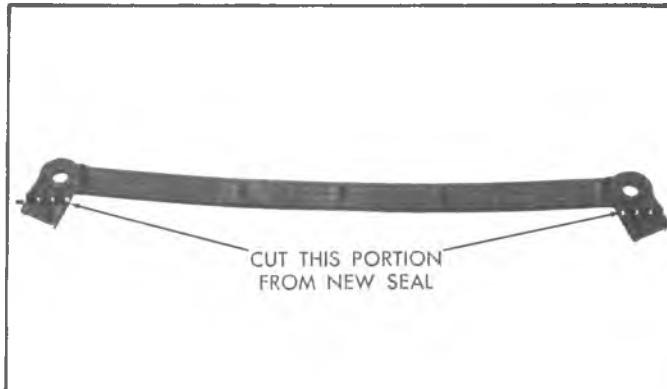

Fig. 19V—Oil Pan Front Seal Modification
2. Cut tabs from the new oil pan front seal (fig. 19V), use a sharp instrument to ensure a clean cut.